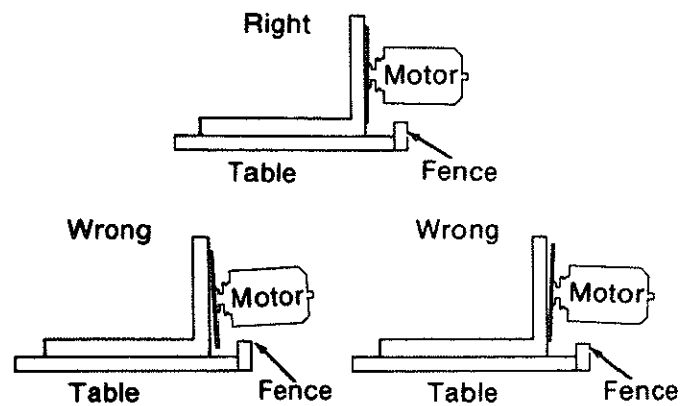

Fig. 116
5. If the square is flush with the *blade* after each rotation (Figure 116) go to step 11, or
If there is a gap between the square and the *blade* after any rotation (Figure 116), go to step 6.